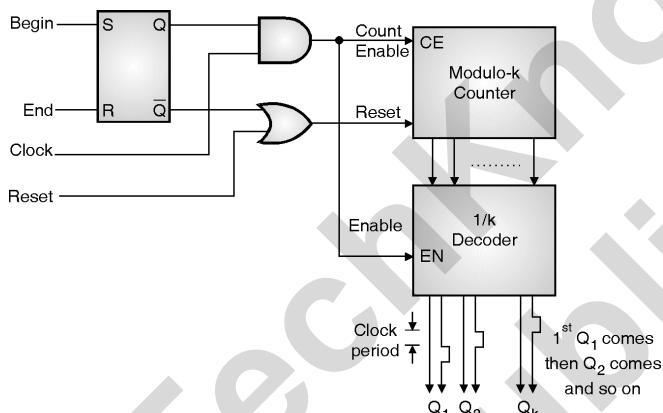

Fig. 9.7.5 : Sequential counter method of Hardwired control unit implementation
- In this method, multiple clock signals are derived from the master clock using a standard counter-decoder approach as shown in the Fig. 9.7.5. These signals are applied to the combinational portion of the circuit.
- As shown in Fig. 9.7.5, the counter keeps on incrementing and generating different counts.